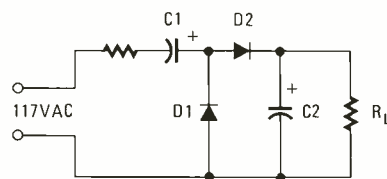

FIG. 10
4. **Correct answer is "b."** No voltage doubling action can take place if rectifier D1 is open. Therefore, the circuit (see Fig. 10) will act as a half-wave 150-volt power supply.